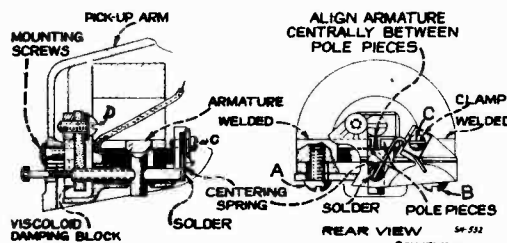
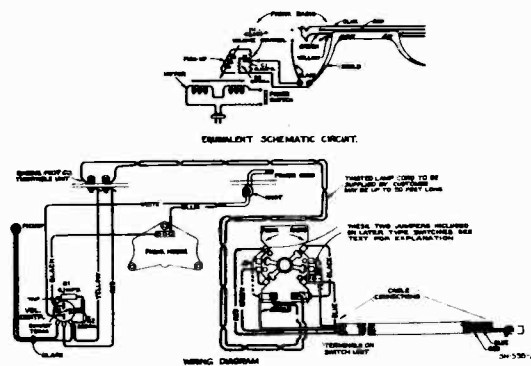

Figure 1—Details of Pickup
Figure 3—Wiring Diagram and Equivalent Schematic Circuit
2. (Record Player Switch Jumpers) — Some record player switches do not have jumpers J1 and J2 (see figure 3) attached. When the switch is so connected and turned to phonograph position, the voltage developed by the pickup is fed into the radio receiver through the green wire and shield, and at the same time the yellow wire is connected to shield. The jumpers J1 and J2 permit the yellow lead to kill radio by connection to shield. The jumpers should be removed where the yellow lead connects in such a position as to short bias batteries, etc. Check the switch to be used for the method chosen and use the jumpers accordingly. Correct jumper connections are indicated in "RCA Victor Receivers—Details of Lead Connections" of this booklet.
Refer to figure 1 showing the pickup inner structure. The armature is shown in its proper relation to the magnet pole pieces, i.e., exactly centered. Whenever this centering adjustment has been disturbed it will be necessary to remove the pickup mechanism from the tone arm by removing the needle holding screw and the two mounting screws from the front of the tone arm, holding the pickup assembly to keep it from dropping. Unsolder the two leads from the lugs on the terminal board at the rear of the pickup. Insert a small rod or nail into the armature needle hole and replace the needle holding screw, tightening it to hold the rod securely. If the armature clamping screws A and B have not been disturbed, screw or screws C should be loosened which will permit the armature to be moved from side to side, the rod acting as a lever to perform this operation. The proper adjustment is obtained when the armature is moved to the extreme position on each side (the movement being limited by
The cabinet of the Model R-93-A is similar to that of the Model R-93 Walnut finish. This model incorporates an acoustic compensated volume control, see figure 3. Model R-93-A (first production) and Model R-93-A (second production) differ only in the pickup construction, the essential difference being in the armature centering spring and spring clamps. Reference to pickup details, figures 1 and 2 will reveal the fact that the armature centering spring is respec-
tively "V" and "T" shaped for the Model R-93-A (first and second productions). Refer to "Model R-93 (third production)" and figures 1 and 2 for pickup adjustments.